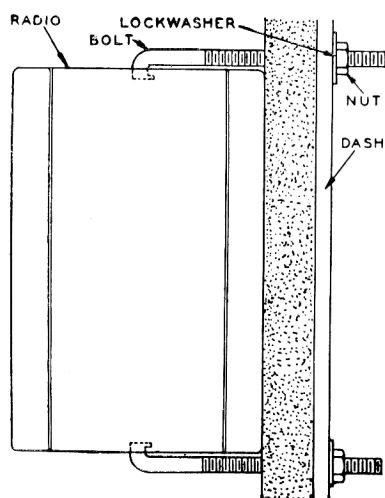

FIGURE 2
**RECEIVER INSTALLATION** — The Receiver must be installed under the cowl, on the dash. Be sure that in the location selected, there is ample foot room and that it does not interfere with the operation of the pedals and ventilators. The Receiver can usually be installed on the left side of the dash, above the steering column. The Receiver can also be installed on the right side of the dash. The control couplings on the end of the Receiver housing must always be toward the center of the car. A cardboard template is furnished so that the mounting bolt hole locations can be easily and accurately marked on the dash. The Receiver fastens to the dash with two hook bolts. Two sets of mounting holes are provided in the sides of the Receiver. Drill two 7/16" holes in the dash and loosely assemble the hook bolts. Install the Receiver on the dash, placing the ends of the hook bolts in two of the holes provided in the sides of the Receiver. Tighten the Receiver securely in place (see Figure 2).